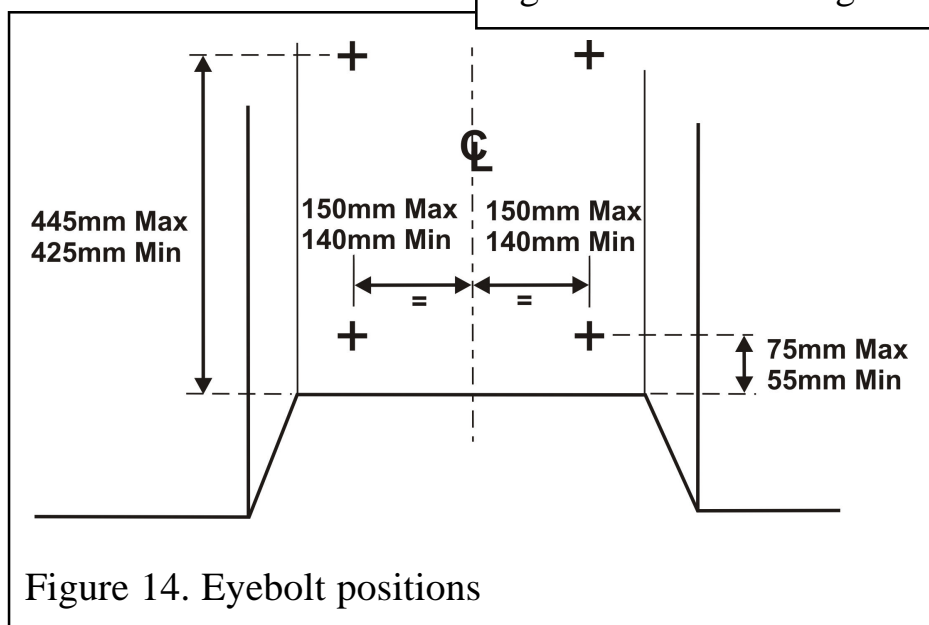

Figure 14. Eyebolt positions
2. Drill four holes in the rear wall of the fireplace for the eyebolt plugs. The holes should be drilled within the range of positions shown in figure 14 using a no.12 masonry drill. The holes should be equidistant each side of the centre line of the fireplace to ensure that the appliance finishes centrally in the opening when tension is applied to the cables.